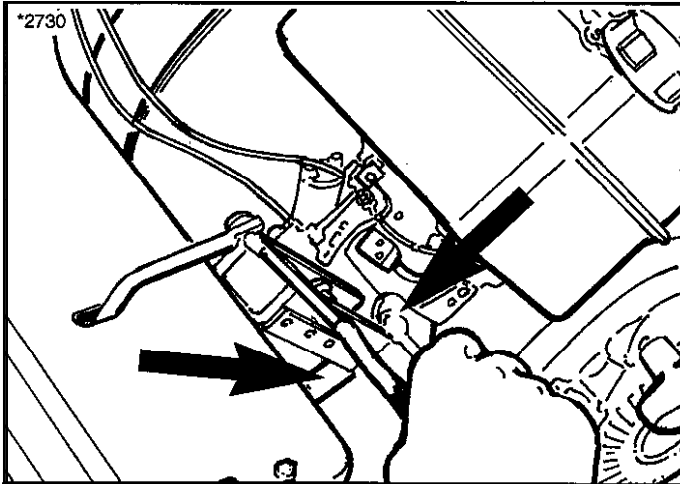

Figure 25. Disassemble Variable Suction Adjustment Control Bracket From Engine
9. Using a 1/2" socket wrench and 1/2" box wrench, remove the hex head screw and hex nut that secures the variable suction adjustment control bracket to the engine block base (Figure 25).